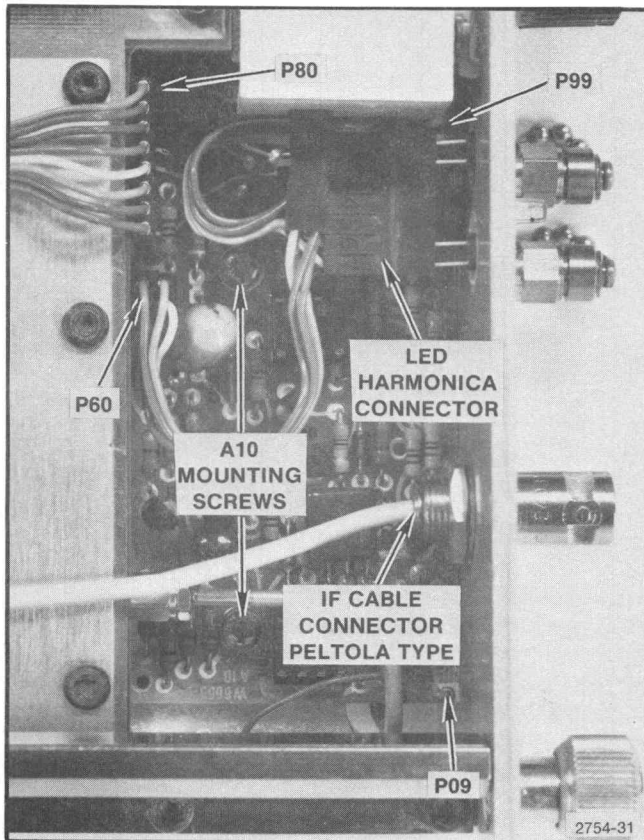

Fig. 5-6. Removing the 1st LO assembly and indicator board.
1. Remove the harmonica connector from the front-panel LED. This connector is located immediately behind the front panel. See Fig. 5-6.
Removing the Indicator Board (A10) (See Fig. 5-6)
4. Remove two mounting screws. See Fig. 5-6.